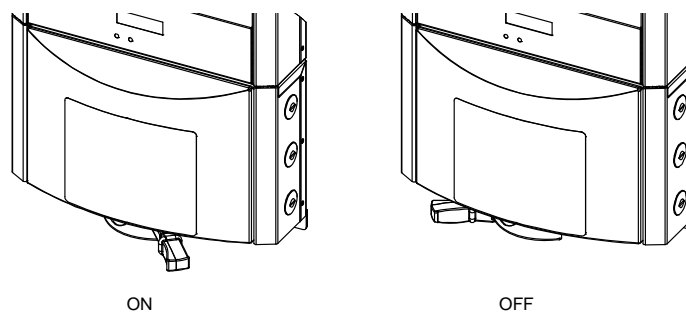

Figure 4-1 DC/AC Disconnect Switch Positions
1. Make sure the DC/AC disconnect switch is in the OFF position (see Figure 4-1).
5. Start the GT Inverter by switching the DC/AC disconnect switch ON (see Figure 4-1).
2. Switch the DC/AC disconnect switch to the ON position (see Figure 4-1).